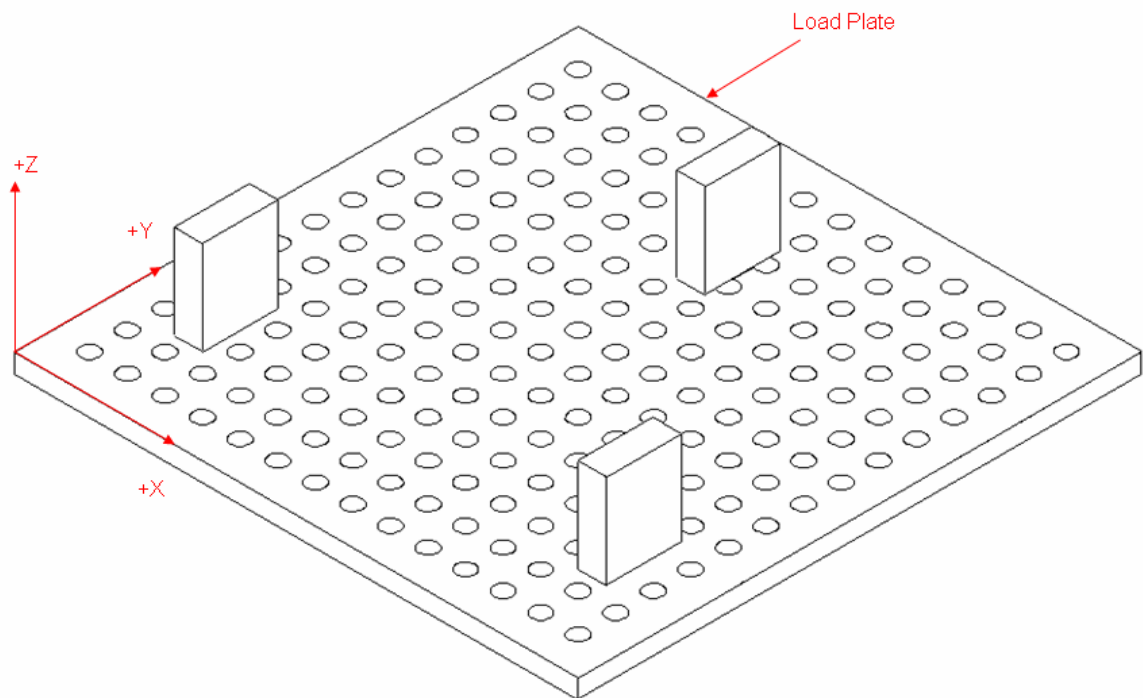

Figure 2. Load Plate/Load Cells
2. Setup and secure three load cells on the load plate (see figure 2). Measure and record the location of each load cell in the plate coordinate system (X, Y, Z), as shown in figure 2.